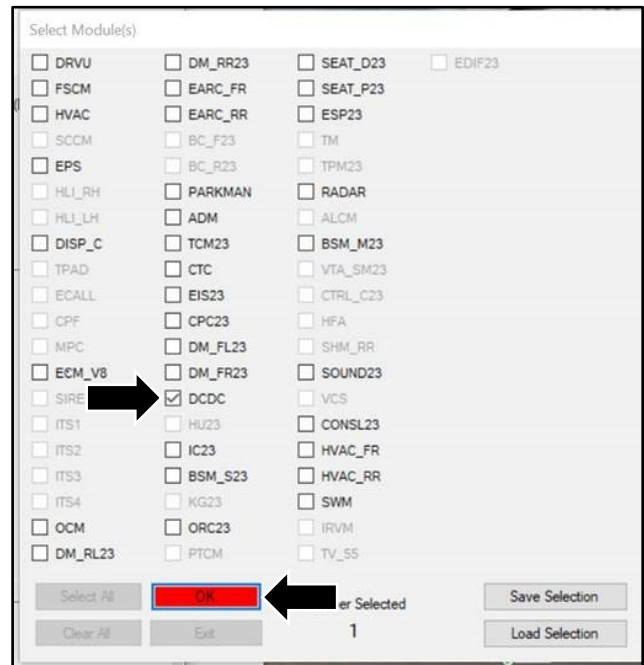

Figure 6
- 13. Select "DCDC" then click "OK" (refer to Figure 6).